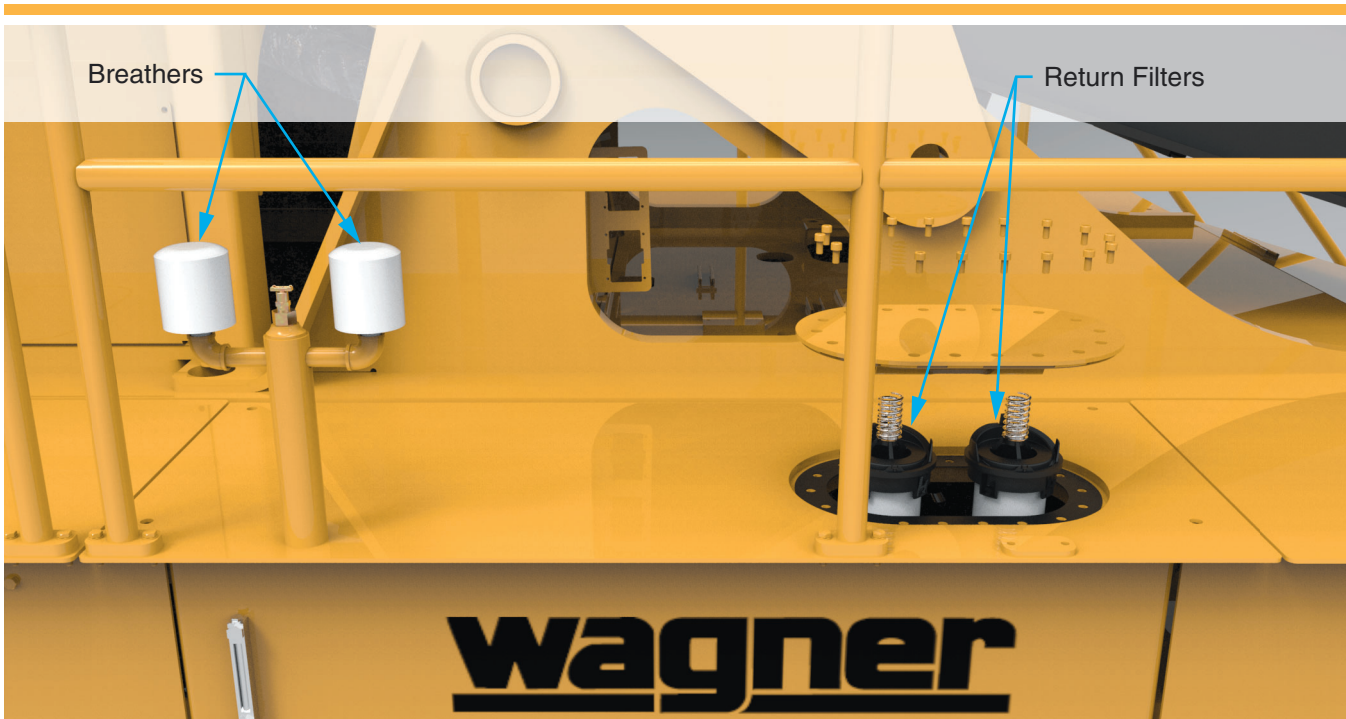

Figure 2 Return Filters
The return filters are accessed from the deck on the right side of the machine. See Figure 2.
1. Shut down the machine and vent captive pressure by opening the petcock at the breathers. See Figure 2.
6. Discard disposable element (2).